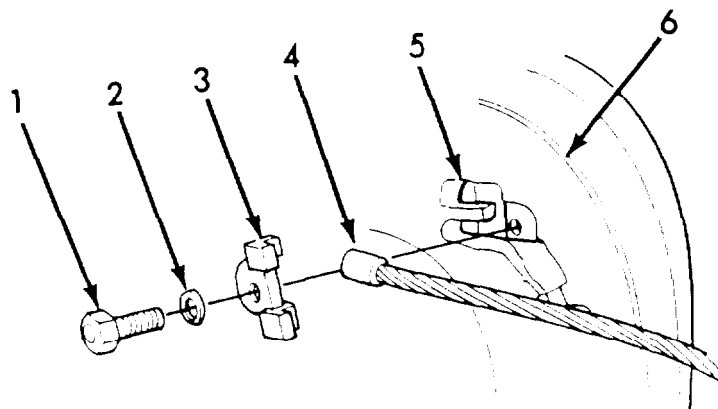

Figure 1.
1. Refer to Figure 1.
3. Remove screw (1), lock washer (2), and clamp (3).
4. Remove ferrule (4) from ferrule slot (5) on winch drum (6). Set wire rope assembly aside for disposition per paragraph 8.
2. Attach the new cable assembly to the drum (6) by placing the ferrule (4) into the ferrule slot (5) on the drum (6).
3. To secure the ferrule (4) in the ferrule slot (5) install the clamp (3), lockwasher (2), and screw (1) and tighten to 110-132 lb-ft (149-179 N.m).